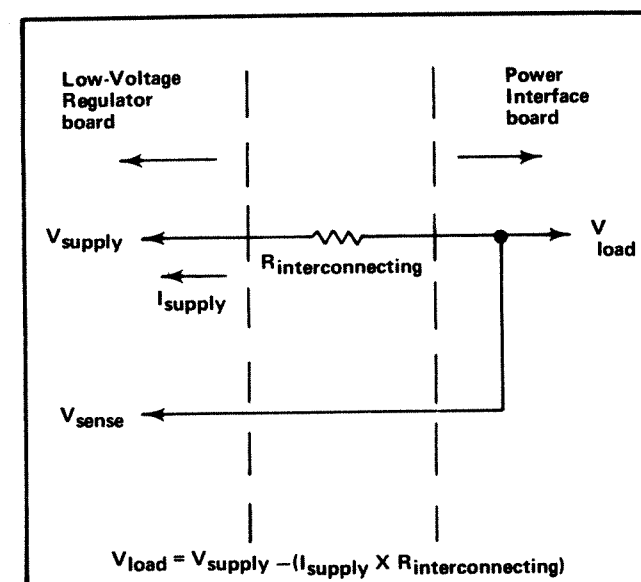

Fig. 3-36. Schematic illustrating voltage drop between power-supply output and load due to resistance of interconnecting wire.
through divider R985-R986-R987. R986 in this divider is adjustable to set the output level of this supply. Notice that the feedback voltage to this divider is obtained from a line labeled -50 V Sense. Fig. 3-36 illustrates the reason for this configuration. The inherent resistance of the interconnecting wire between the output of the -50-Volt Supply and the load produces a voltage drop which is equal to the output current multiplied by the resistance of the interconnecting wire. Even though the resistance of the wire is small, it results in a substantial voltage drop due to the high output current of this supply. Therefore, if the feedback voltage were obtained ahead of this drop, the voltage at the load might not maintain close regulation. However, the -50 V Sense configuration overcomes this problem since it obtains the feedback voltage from a point as close as practical to the load. Since the current in the -50 V Sense line is small and constant, the feedback voltage is an accurate sample of the voltage applied to the load.
The Format Generator stage provides the output signals to the vertical and horizontal deflection systems of the instrument to produce the character display. The binary Channel Address Code from the Channel Counter stage is connected to this stage so that the display from each channel is positioned to the area of the CRT which is associated with the plug-in and channel originating the word (see Fig. 3-36). The positioning current or decimal point location current generated by the Decimal Point Logic and Character Position Counter stage is added to the horizontal (X) signal at the input to the Format Generator stage to provide horizontal positioning of the characters within each word. The X- and Y-output signals are connected to the Horizontal Amplifier and Vertical Amplifier through the Horizontal Output and Vertical Output stages respectively.